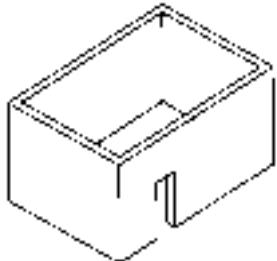

Fig. 02 - Enclosure with walls on all sides but no overhead cover.
- An enclosure with walls on all sides, but at least one permanent opening at ground level and no overhead cover. See Fig. 02.